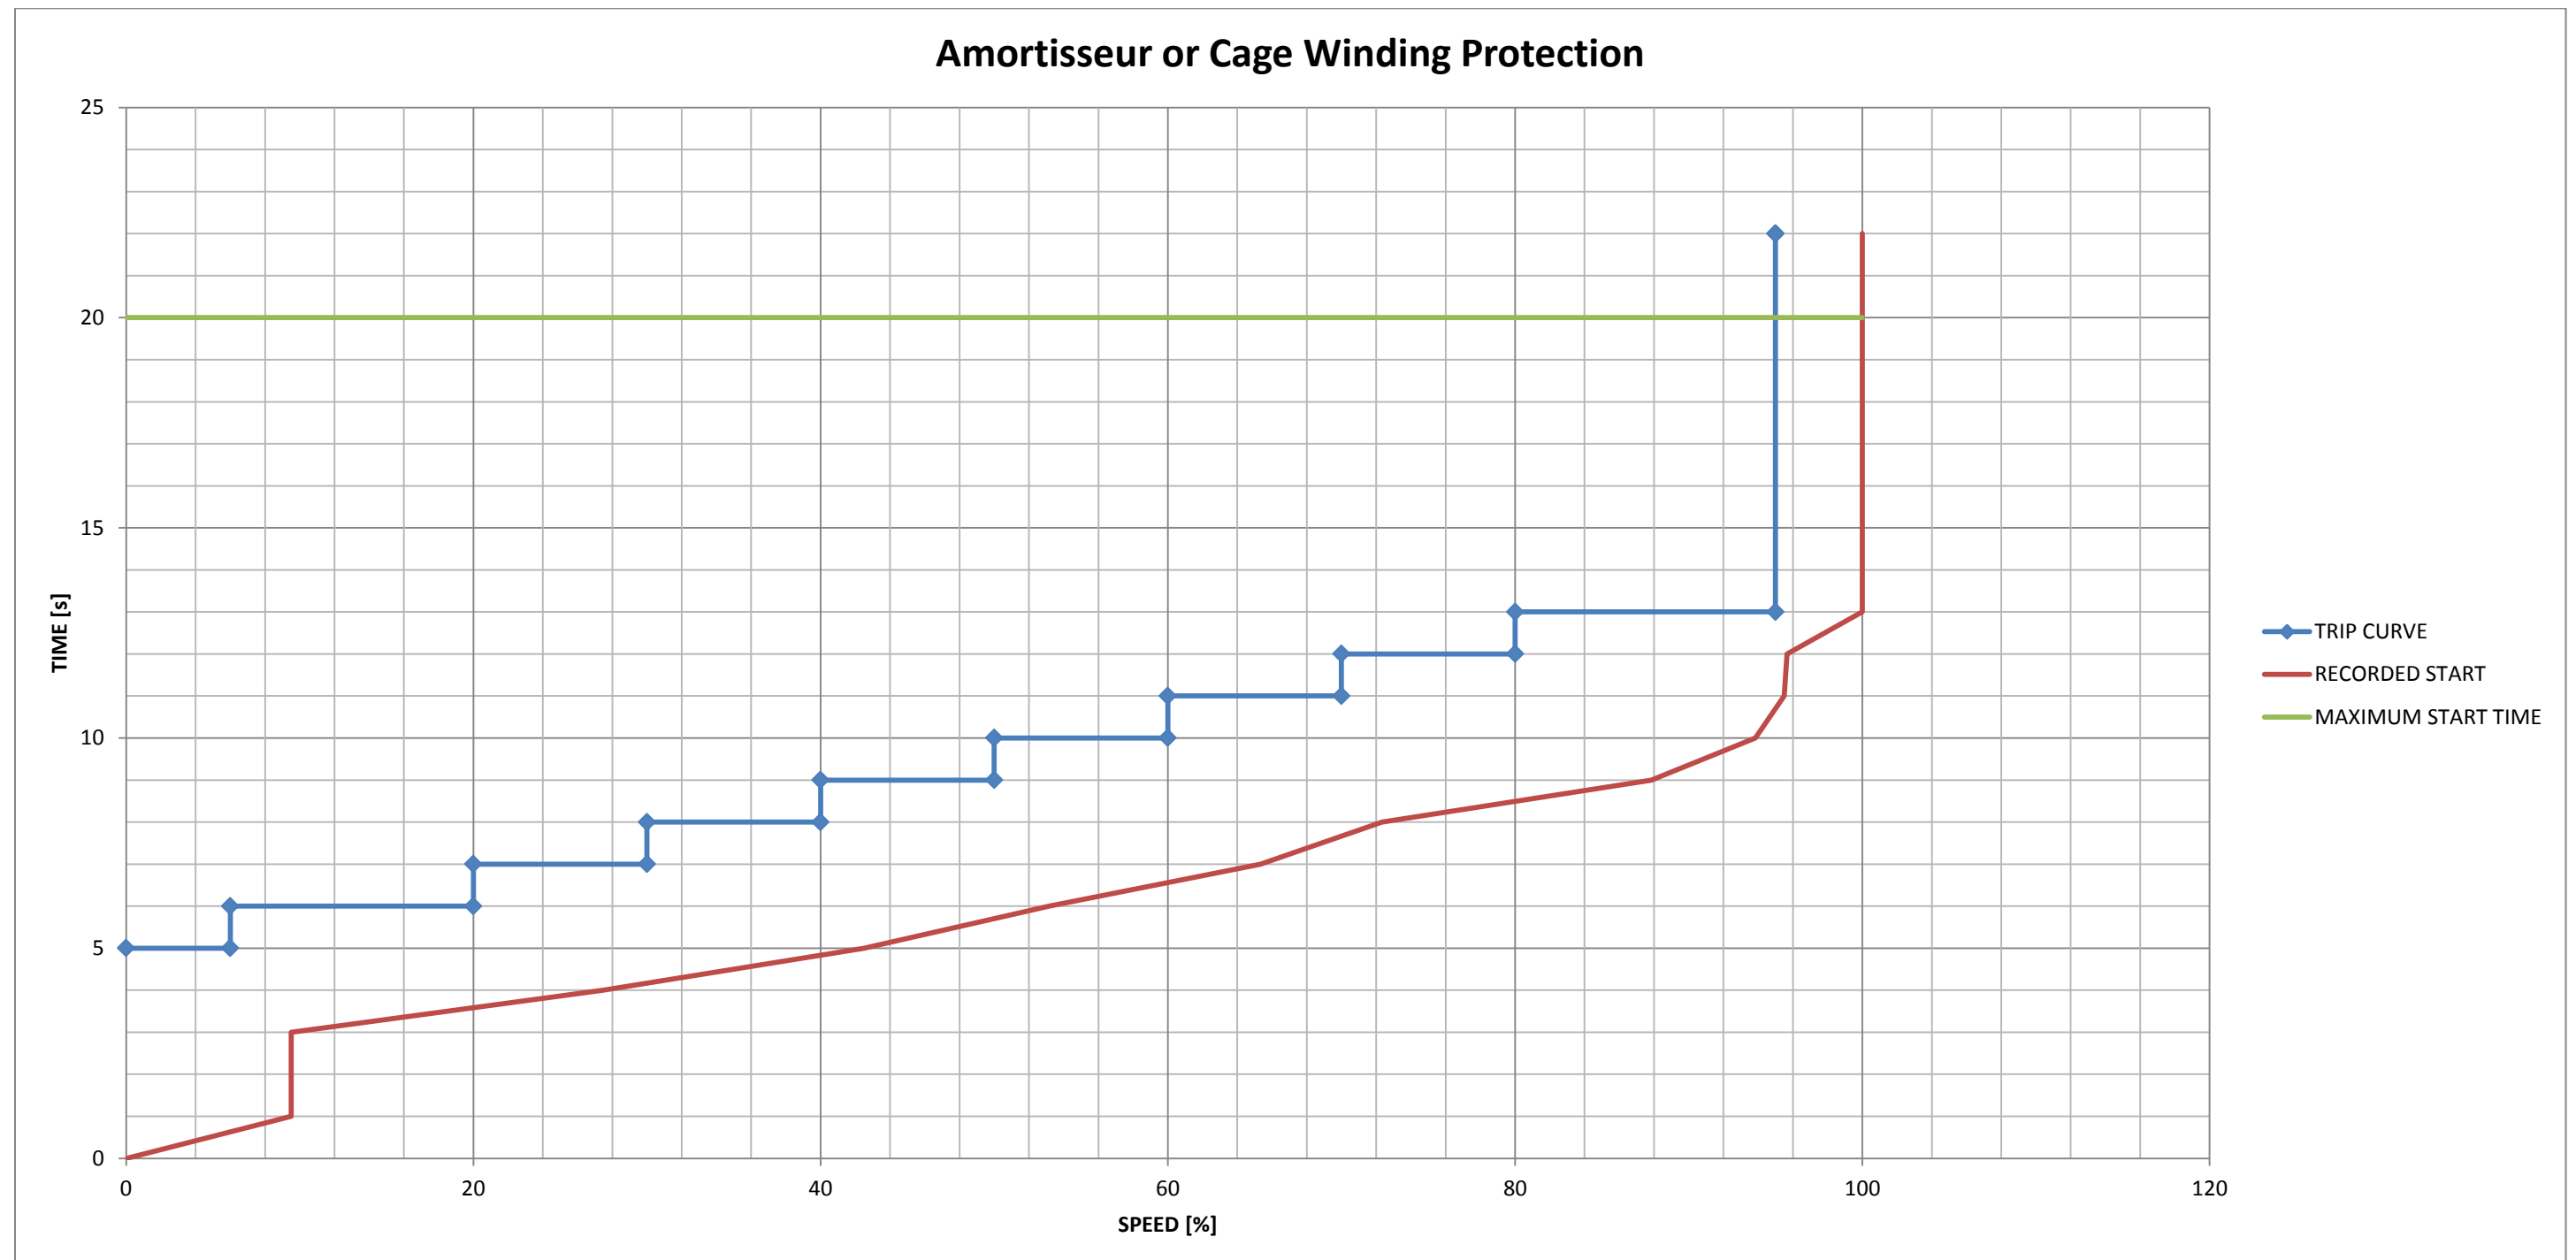

Figure 18 - Main Pump Amortisseur or Cage Winding Protection
2. During starting the rotor must reach various speeds within a certain time delay or else tripping will occur. This tripping characteristic has been plotted for a typical motor start as shown in Figure 18.